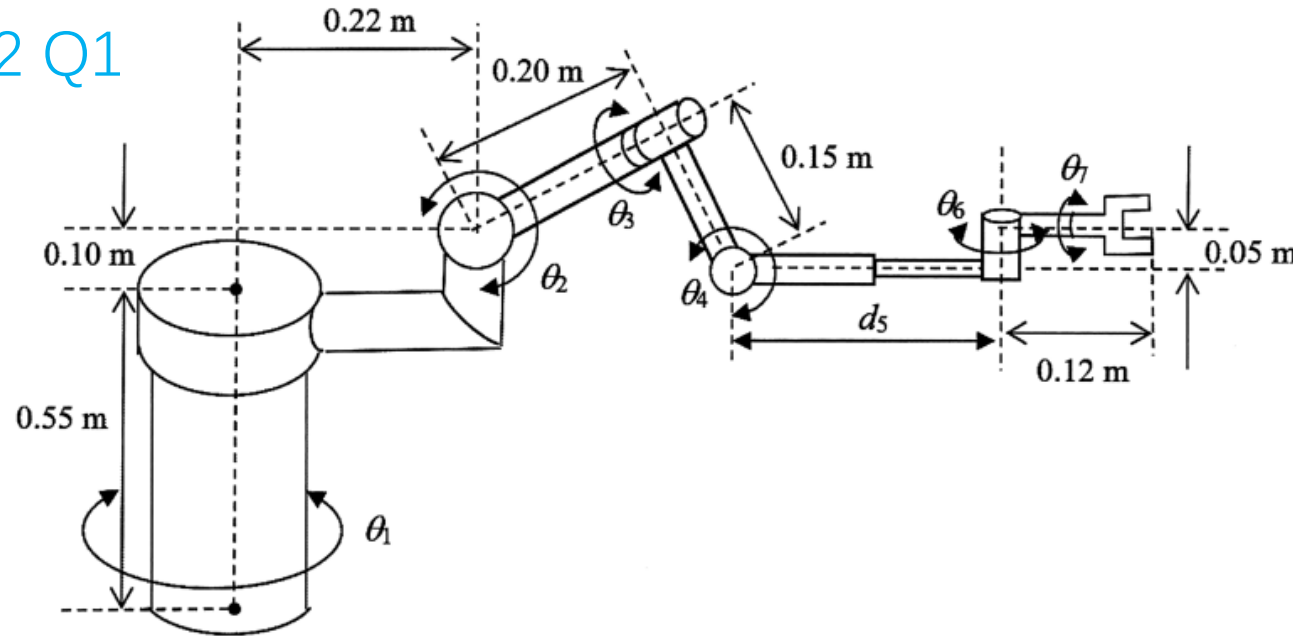

Figure 1
1. A robotic manipulator with seven joints is shown in Figure 1.